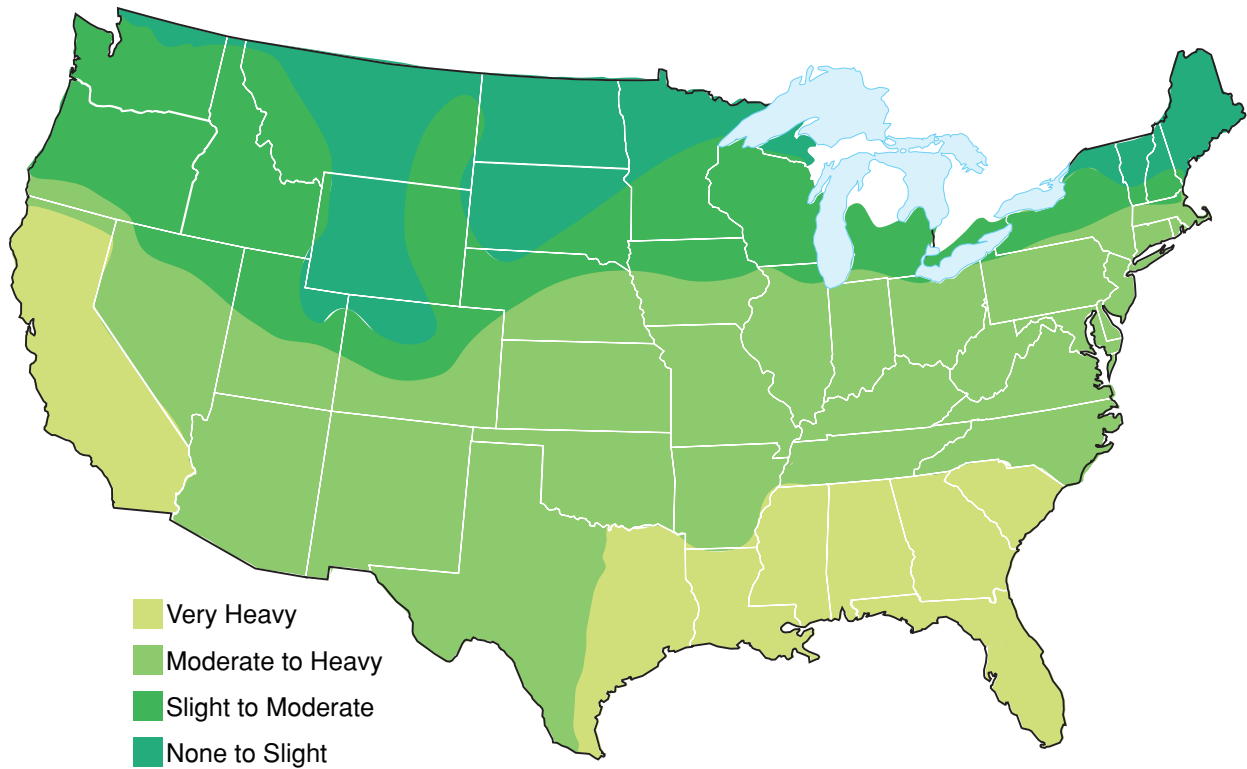

Figure 12-11 Termite Probability Map
Termites can be grouped into two main classes: subterranean and dry-wood termites. *Subterranean termites* account for about 95 percent of all termite damage. They eat the interior of the wood and can cause much damage before they are discovered. They honeycomb the wood with tunnels separated by thin layers of sound wood. They are common throughout Hawaii and the southern two-thirds of the United States, except in mountainous and extremely dry areas. **Figure 12-11** on page 330 shows termite infestation probability for the contiguous United States.
5. **Local Ecosystem** Find your state in Figure 12-11 if possible. Research which types of termites, if any, are in your state using your local Cooperative Extension office. Locate information about safe ways to prevent local termite damage. For example, are any special building materials recommended? Are there any non-toxic ways to destroy termites that are offered in your state? Report your findings in a one-page summary.